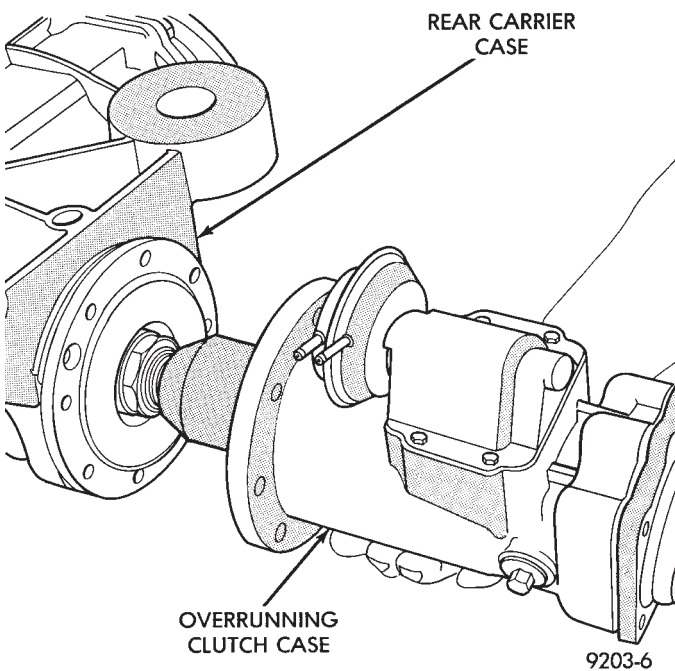

Fig. 2 Separate Cases
- (3) Separate overrunning clutch case from differential carrier case (Fig. 2).